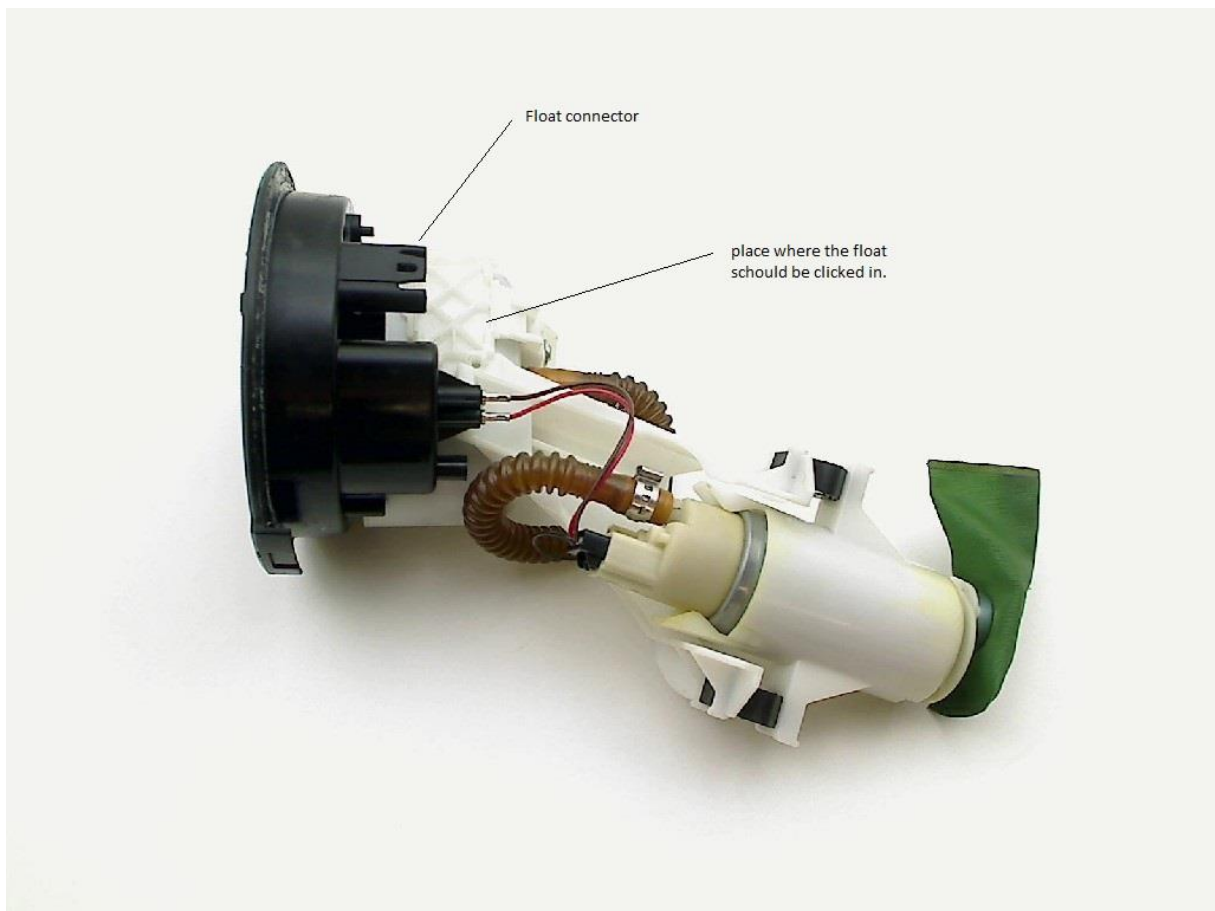

Fig. 6 Picture where you should place (click) the new BMW float and where the connector of it must be inserted.
5. Place (click) the float in place on the petrol pump body (see fig. 6) then slide the blue connector in place.